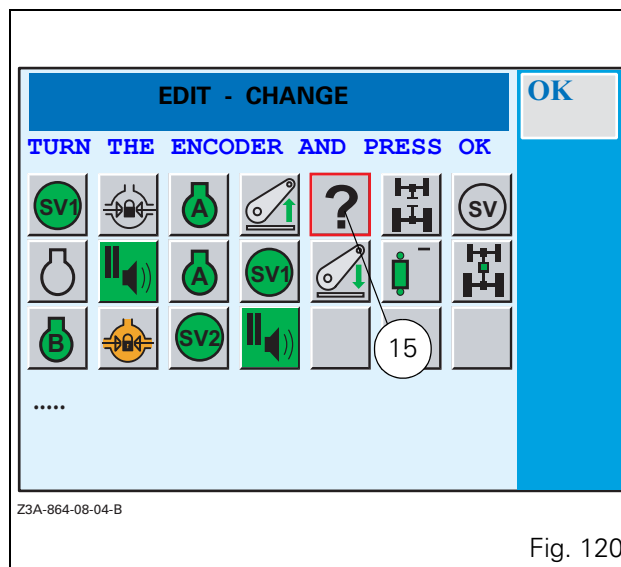

Fig. 120
- Validate either by pressing the encoder, or by pressing key \ll_1 . The icon to modify is replaced by a question mark (15 Fig. 120).